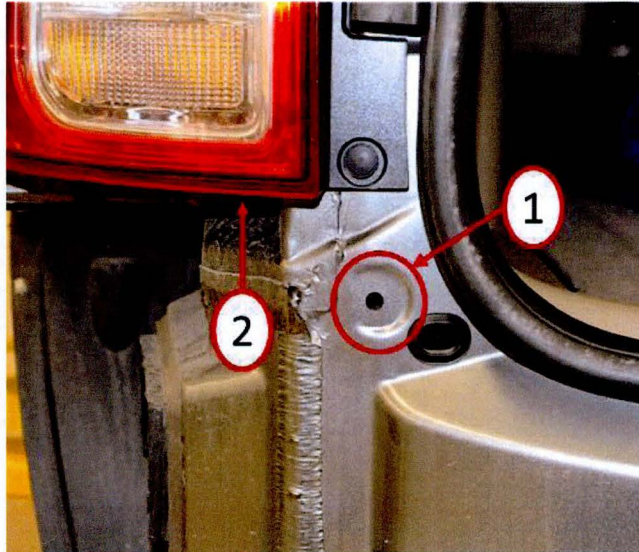

Fig. 3 Push Clip Grommet Removal
2. Remove the push clip grommets from the body in each corner of the lift gate area (1) as shown in (Fig. 3).